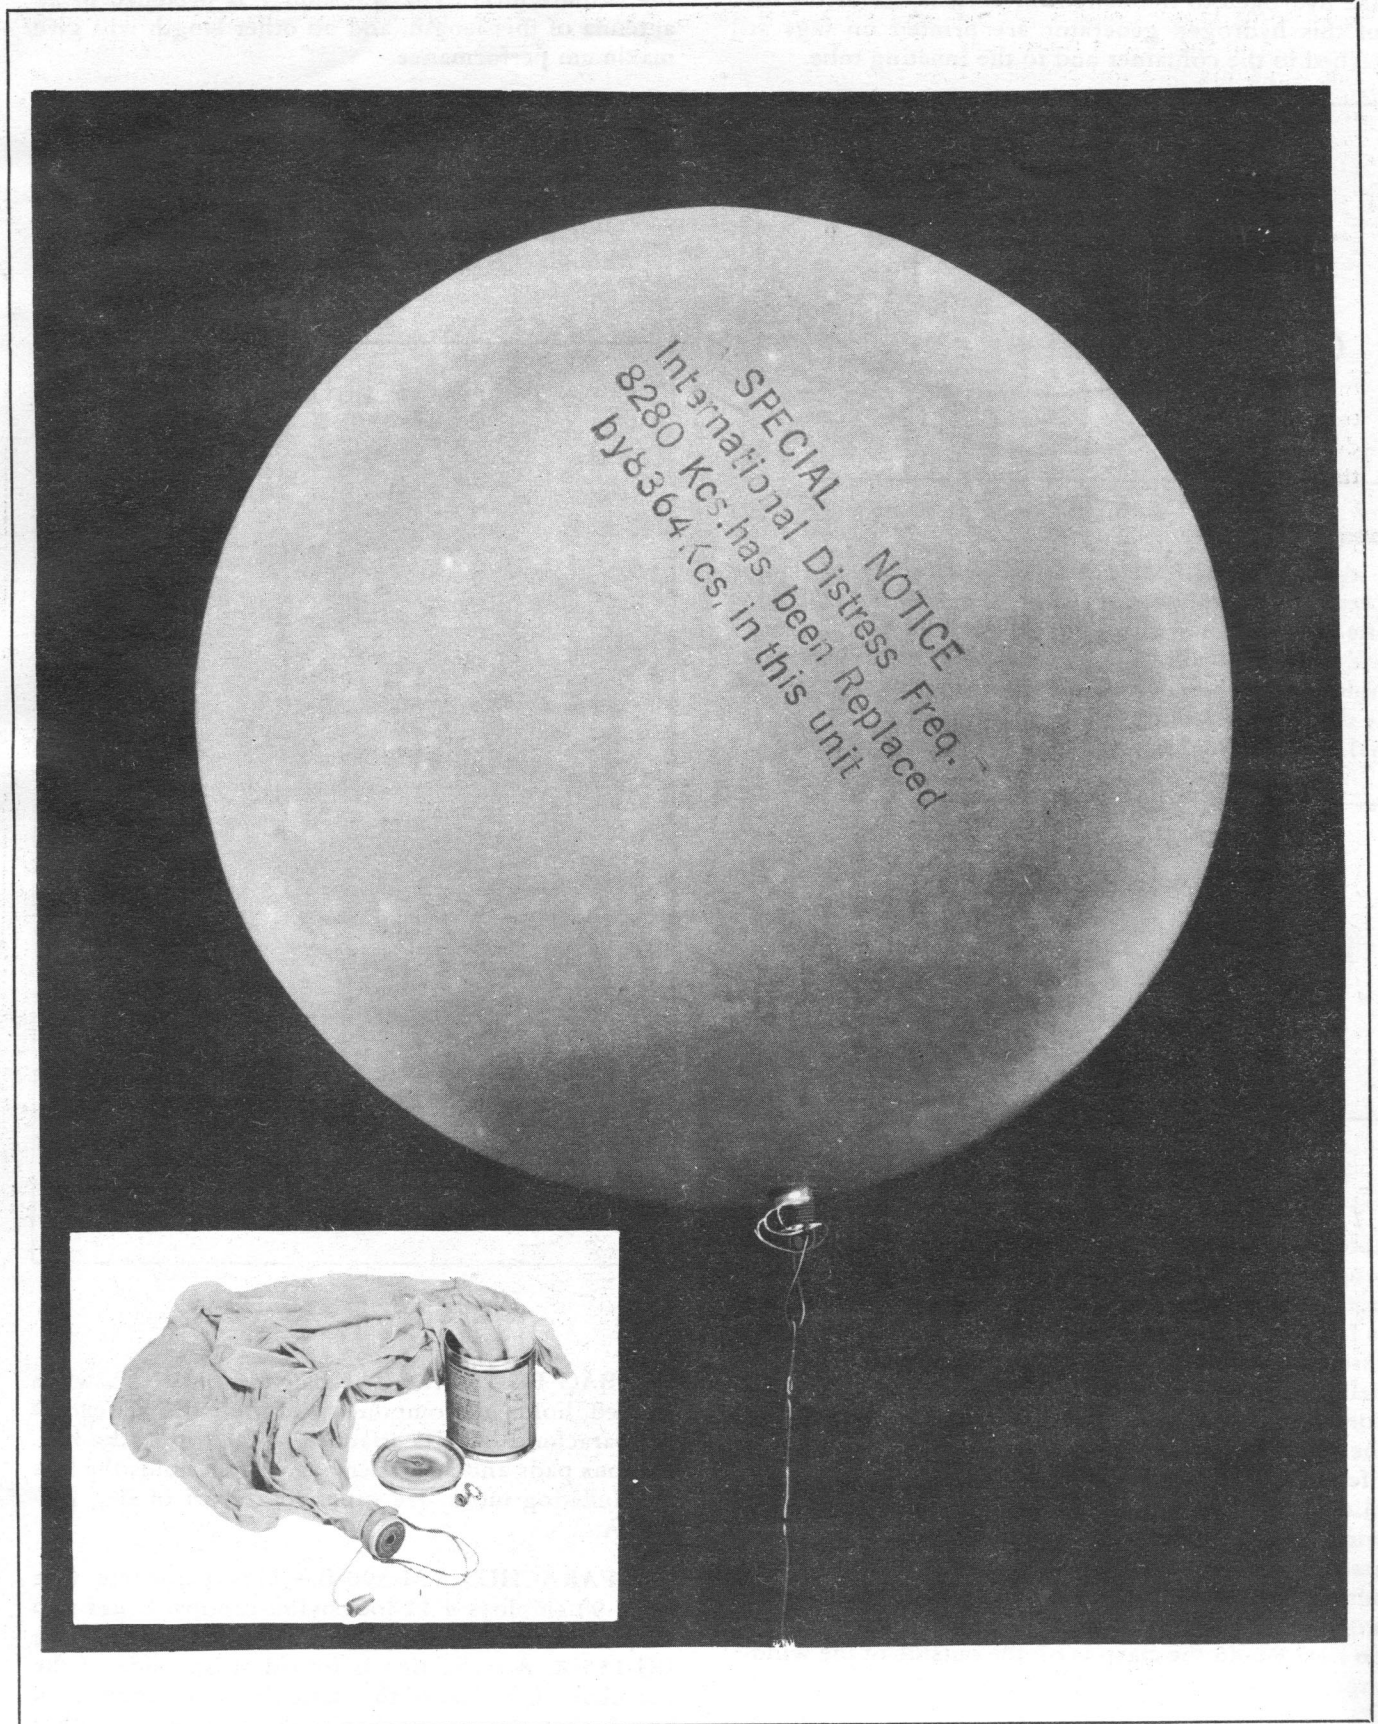

Figure 1-4. Balloon M-278-A
c. BALLOON M-278-A.—The balloon (see fig. 1-4) is used to raise the antenna when lack of wind does not permit the use of the kite. The balloon is supplied in a can, 5-1/8 inches long x 4-1/4 inches in diameter, which is opened by a key. When inflated by means of the hydrogen generator described below, the diameter of the balloon is over four feet.